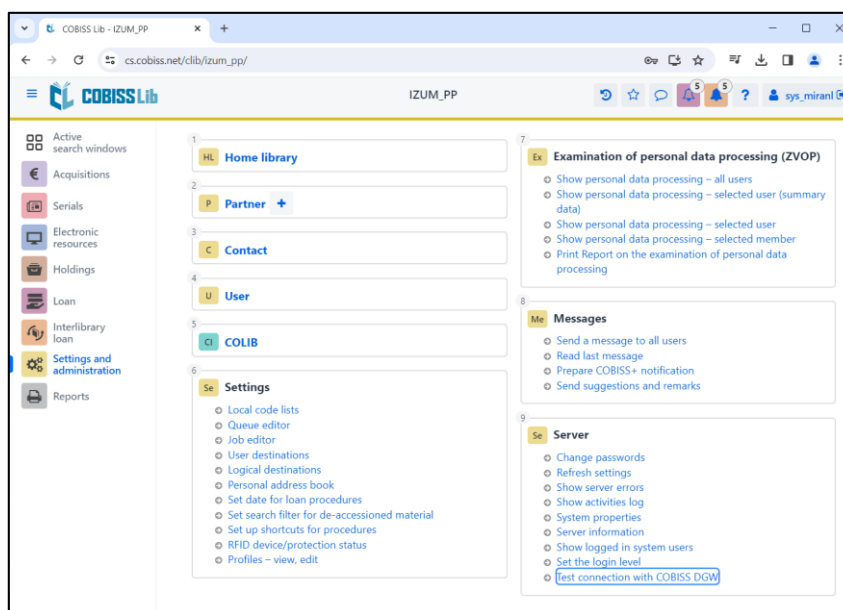

Figure 9: COBISS Lib user interface
- Figure 9: COBISS Lib user interface5
To check if the installation was successful, you can use the **Settings and administration / Server / Test connection with COBISS DGW** method in COBISS Lib. The message *COBISS DGW is connected!* means that the installation was successful and that you can continue adding printers to the logical destinations (see Figure 9).